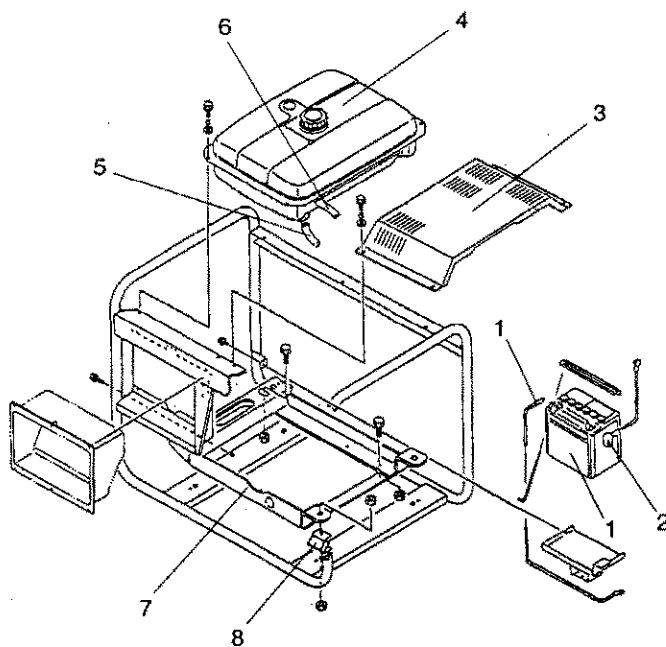

Fig. 5.2.2 Frame unit components
- Fig. 5.2.2 illustrates the scope of work and parts configuration.
① Disconnect battery cable 1.